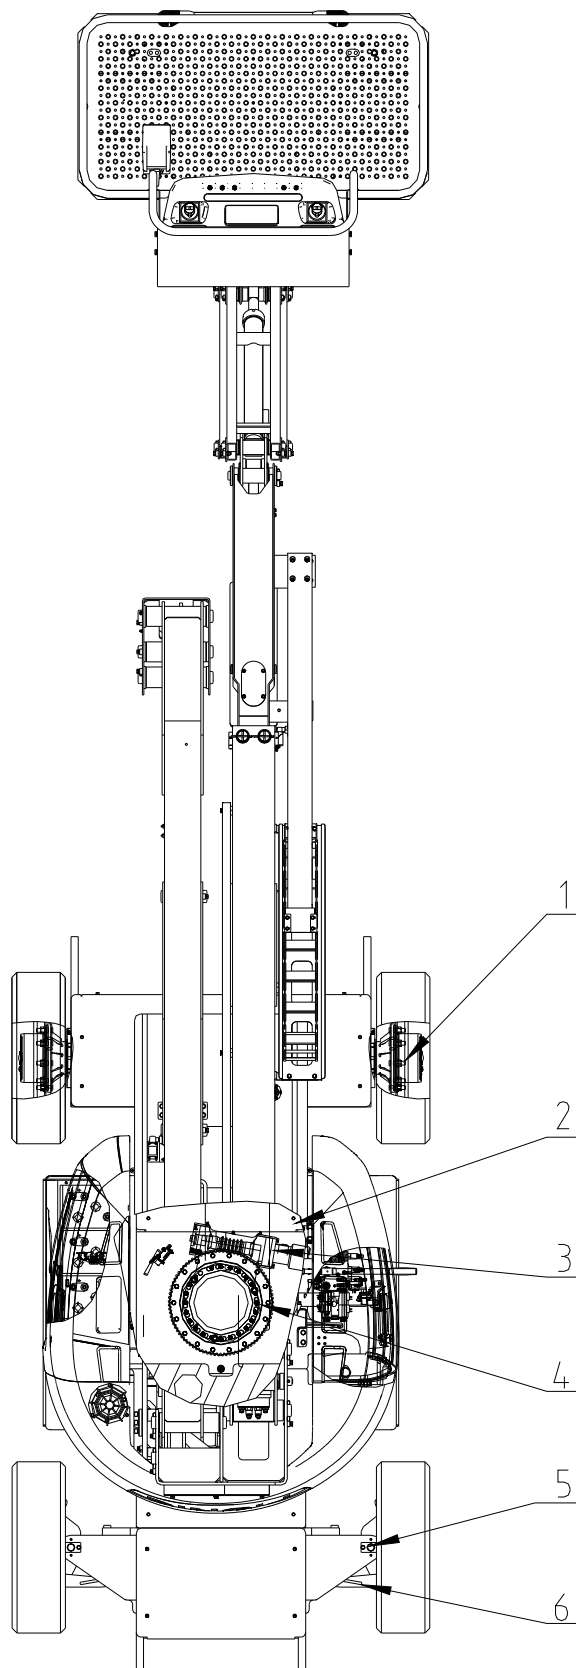

Figure 7-1 Operator Maintenance and Lubrication Diagram
**Lubrication for Swing Bearing** (Refer to the Figure 7-1 Item3)
**Lubrication for the Outer Gear Teeth** (Refer to the Figure7-1 Item3)
**Lubrication for the Worm Gear** (Refer to the Figure 7-1 Item 2)